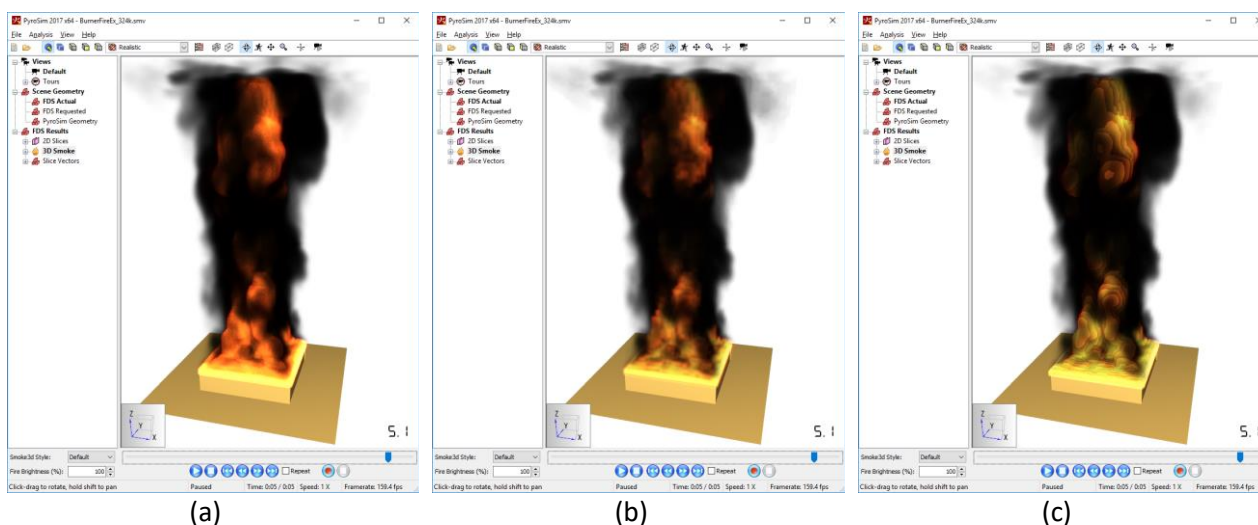

Figure 4-7: Fire rendering algorithms: (a) Hardware Shaders (b) Compatibility Renderer (c) Smokeview Renderer
- **FDS Smoke/Fire->Render method:** Specifies the algorithm used to render fire and smoke (see 3D Smoke and Fire on page 47). A comparison of the algorithms is shown in Figure 4-7.